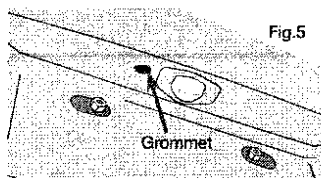

Fig.5
- After you have drilled a hole, insert the supplied grommet as shown in Fig. 5, then pass the power cable through the grommet into the vehicle as shown in Fig.6. You must use the grommet to prevent the metal edge of the hole from cutting the power cable.